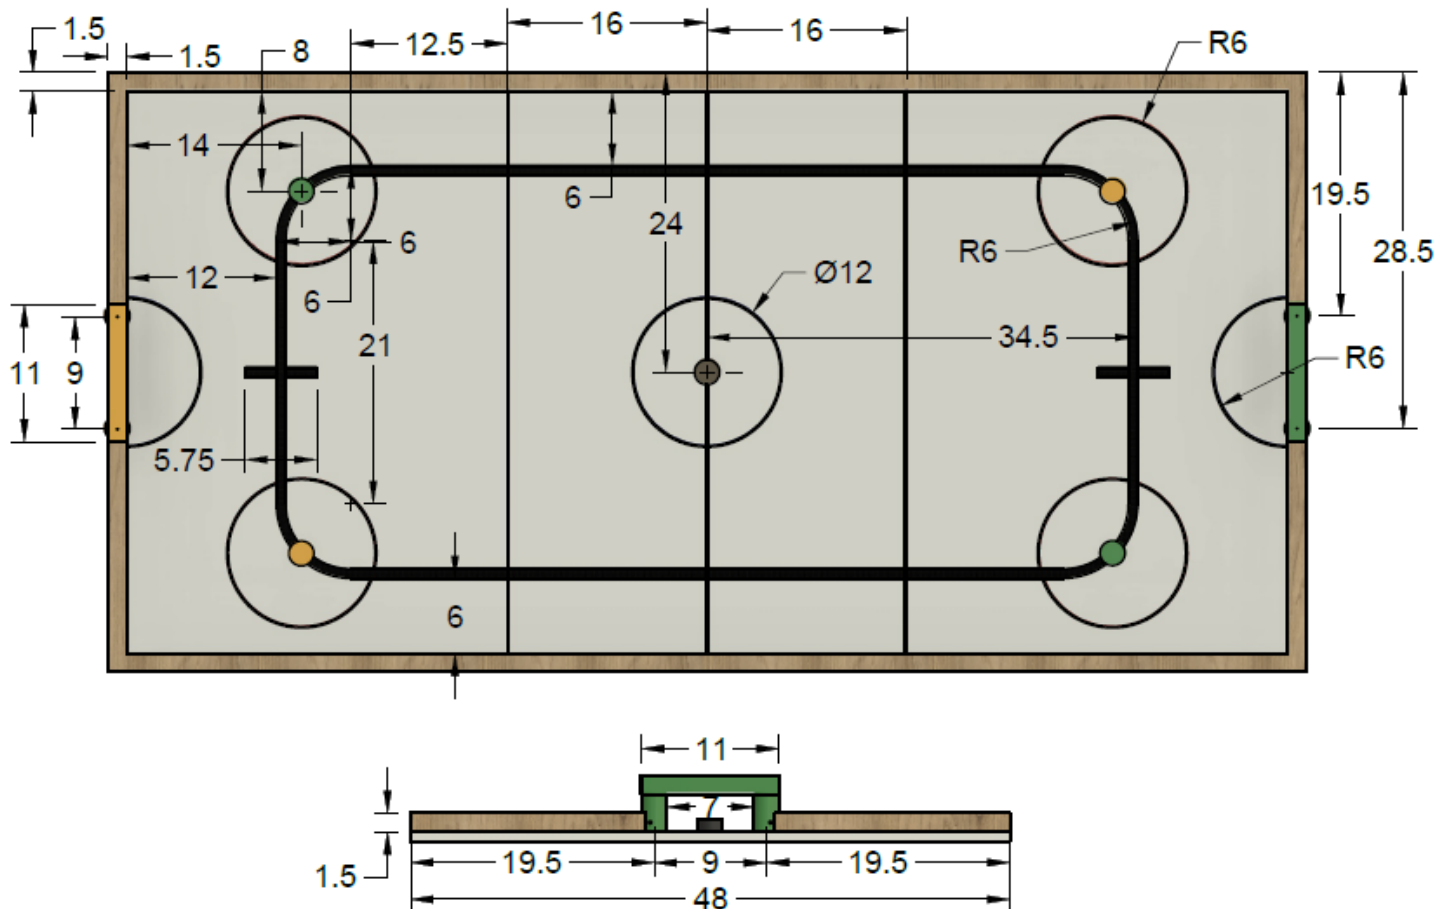

Figure 2: Track dimensions
5. The goal crease (**Figure 2**) is a 6" radius semi-circle in the center of each goal opening.
6. All tape and line dimensions shown in Figure 2 are to the outer edge of each line.
7. Draw light construction lines on the tile board to mark the centerline of the black line-following line, face-off circles, blue goal creases, blue and red lines of the 'neutral zone', as shown in Figure 2.
11. Place the pucks in the locations indicated in Figure 1a and Figure 2.
4. Points deducted for entering the goal crease: **5 Points** will be *deducted from each goal scored* if any portion of the robot is within the goal crease area while in the process of shooting the puck. No penalty will be deducted for 'in-the-crease' non-goal delivery of a puck to the goal crease. The goal crease is identified by a vertical plane defined by the blue semi-circular border on the ice surface that surrounds each goal. See **Figure 1 and Figure 2.**